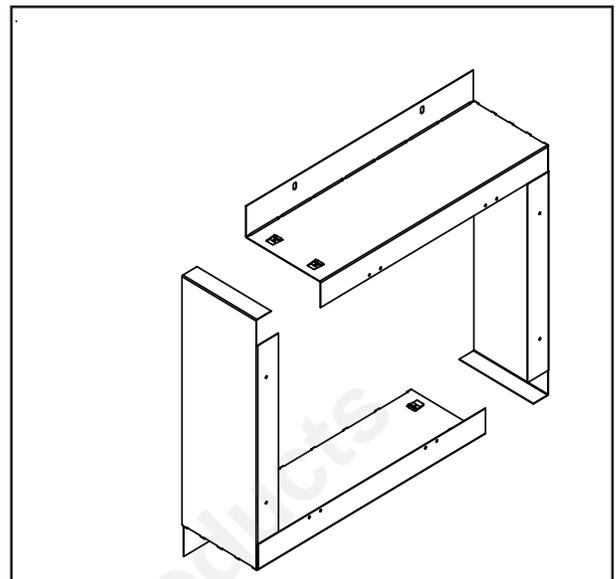

Figure 3.19 Bend BEK Sections
11. Assemble the PVLP-BEK kit. Bend the two sections of the PVLP-BEK kit as shown in Figure 3.19.